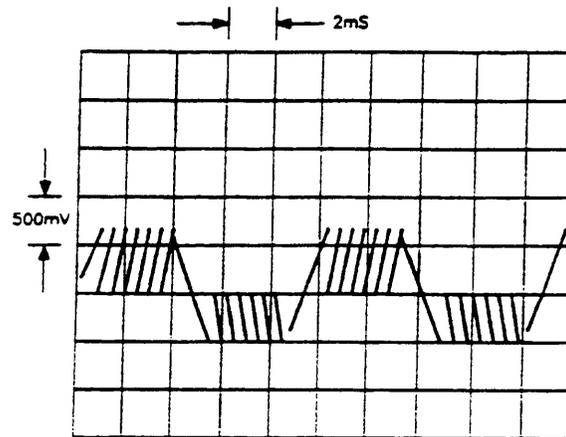

Figure 10. Oscilloscope Display of TP3 (dc Coupled), Signal Generator's Frequency 950 MHz, Modulation EXT FM, 5 kHz Deviation (100 Hz Square Wave).
5. Connect the oscilloscope to A3TP3. If the waveform at TP3 is not the same as shown in Figure 10 go to Service Sheet 15.